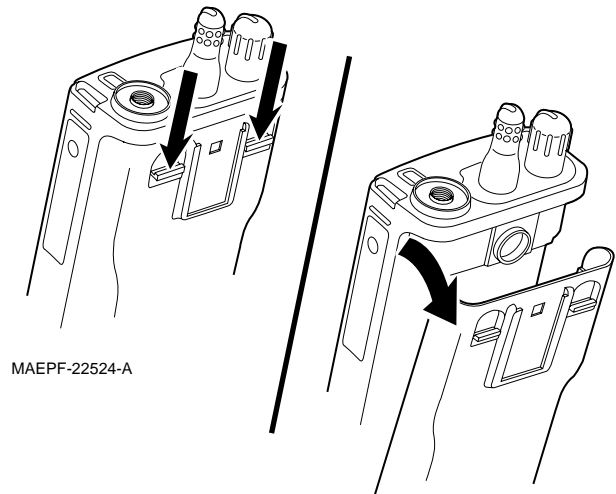

Figure 40-4.
2. Remove the battery (see Figure 40-4).